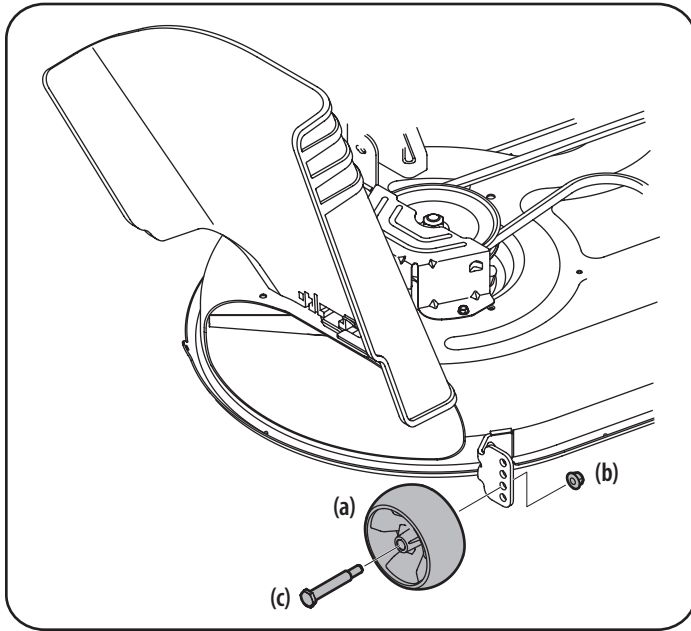

Figure 10
- b. Remove the front and rear deck gauge wheels (a) by removing the lock nuts (b) and shoulder screws (c) which secure them to the deck. See Figure 10.